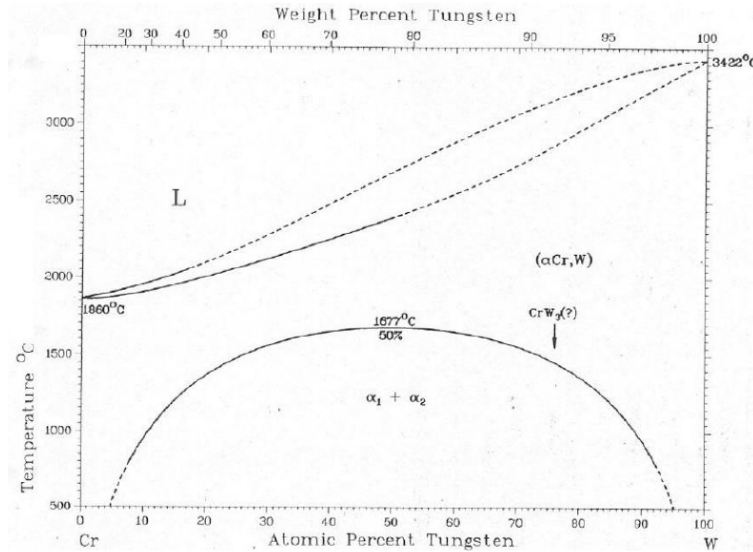

Figure 1.3: Cr-W Phase diagram.
- 5) Based upon the temperature at the top of the miscibility gap in the Cr-W system (see Figure 1.3), do the following: